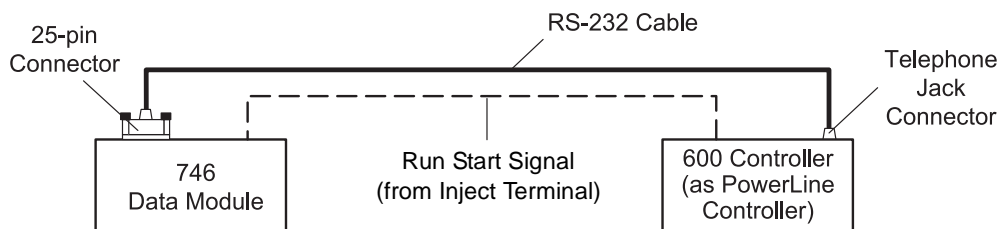

Figure 3-7 RS-232 Connections with a Waters 746 Data Module
1. Connect the 25-pin connector (provided with the data module) to the rear panel of the data module (Figure 3-7).